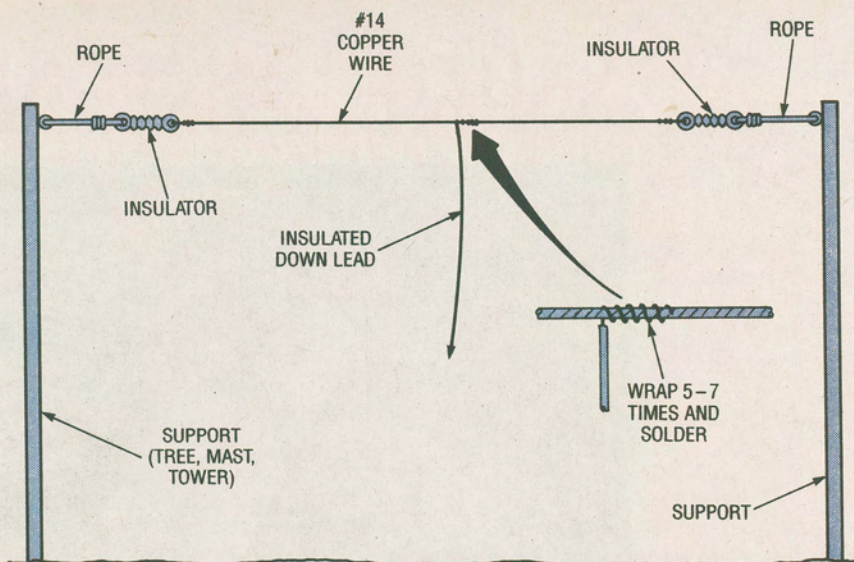

Fig. 1. The Tee antenna is a length of wire 40 to 100-feet long that is fed at the center by another wire, called the downlead.
**Tee Antennas.** The Tee antenna (shown in Fig. 1) is especially suited to shortwave listeners, although ham operators have used them. The Tee antenna is a length of wire 40 to 100-feet long that is fed at the center by another wire, called the download. The antenna element can be bare, but the download should be insulated 12-, 14-, or 16-